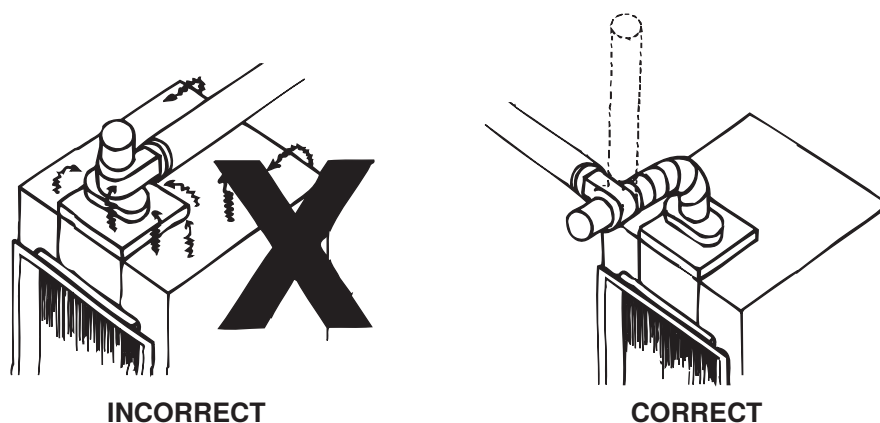

Figure 5. Top Flue Venter Connection
To prevent spillage from the relief opening, ensure that a top flue connection is installed correctly as specified in step 3c and as in shown in Figure 5.
- c. If top flue connection is used, install elbow between venter flue adapter and venter inlet as shown in Figure 5 using 4- to 6-inch elbow between adapter and venter.